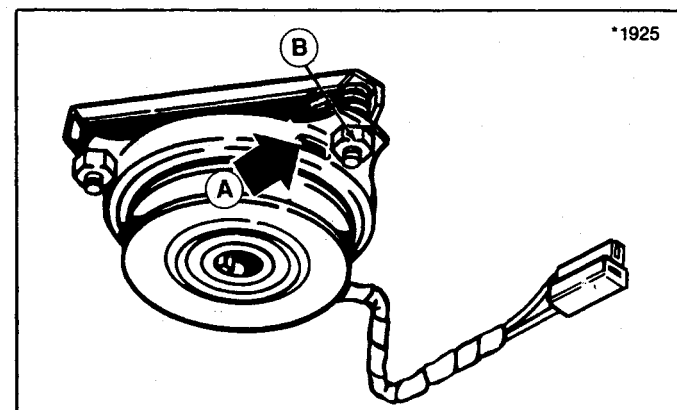

Figure 34. PTO Clutch Adjustment
2. Use a 0.010 to 0.012 feeler gauge to check the electric clutch at three places (A, figure 34). Insert the gauge. There should be a slight resistance as gauge is moved in and out of slot. If tight, or loose, go to step 3.
3. Loosen or tighten one of the nut (B) to adjust one of the three places. Loosen nut to increase gap; tighten to decrease gap.